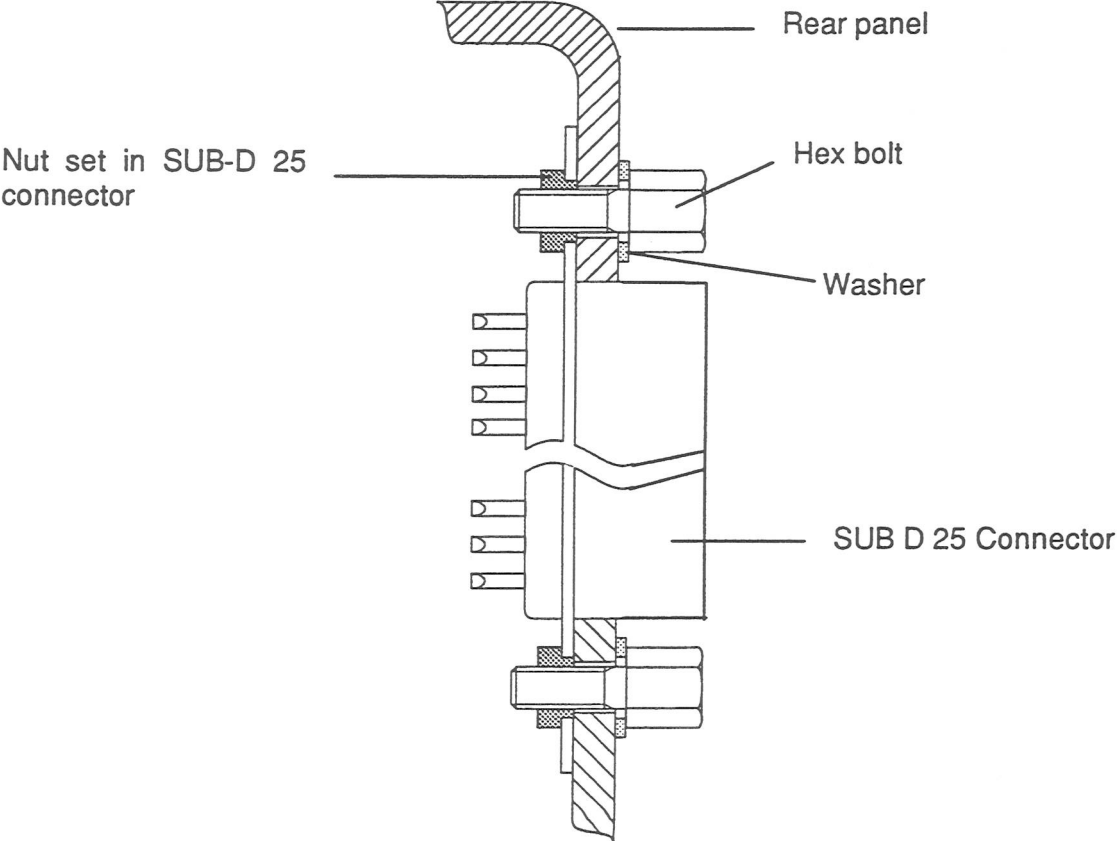

figure 20
- Secure the connector to the oscilloscope subrack using the hex bolts, washers and nuts provided (Figure 20):